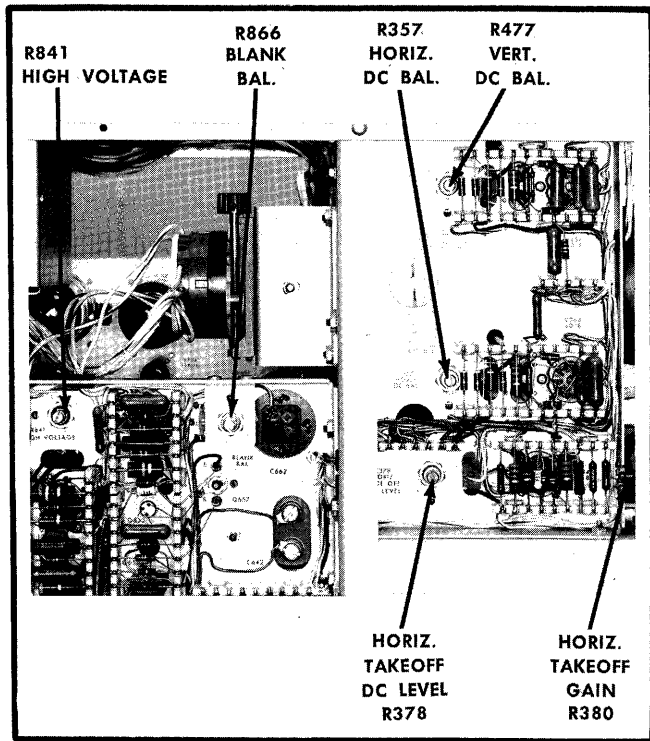
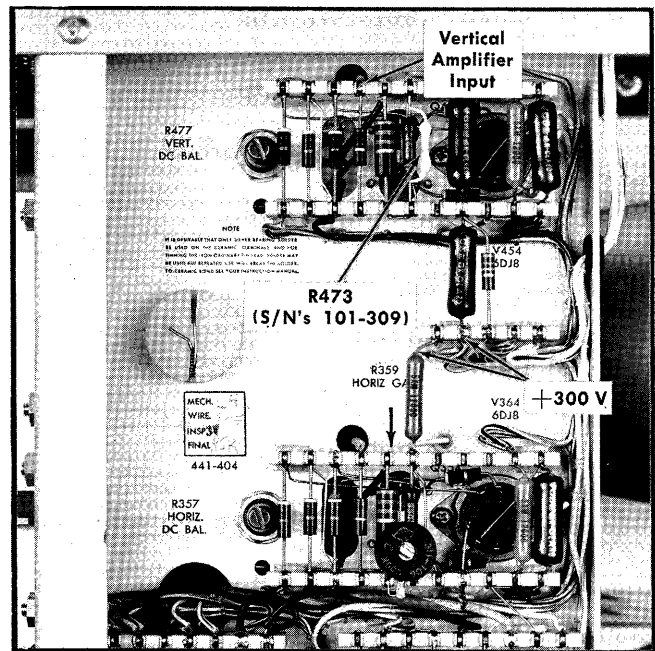

Fig. 5-2. Location of some adjustments on left side of oscilloscope (for instruments with serial numbers 101 through 309).
Fig. 5-3. Location of input to Type 661 Vertical Amplifier.
Disconnect the resistor from +300 volts. Carefully position the crt spot to the left edge of the graticule. Reconnect the resistor to +300 volts. If the spot does not move exactly 10 centimeters (plus or minus the error percentage just determined), adjust R841 (HIGH VOLTAGE control, Fig. 5-2) until the spot moves the correct amount. It may be necessary to repeat this procedure several times for proper adjustment.
Connect the dc voltmeter between the center terminal of R866 (BLANK BAL control) and pin 6 of V874 to check the differential voltage between the crt blanking deflection plates. V874 is located between the two ceramic strips adjacent to the control (see Fig. 5-2). Adjust the BLANK BAL control for zero volts on the meter. Turn off the Type 661, install both plug-in units, and turn the Type 661 back on.
Alternately connect and disconnect a 2-meg, 1% resistor between a +300-volt test point and the vertical amplifier input (see Fig. 5-3). The display should be spot alternately at  $-3$  and  $+3$  centimeters,  $\pm 2$  millimeters. If the scan is more than  $\pm 2$  millimeters from being 6 centimeters, check the vertical amplifier transistors and tubes. If they are satisfactory, then change the value of R473 according to the following procedure.
If it is necessary to change the value of R473, remove the existing resistor (Fig. 5-3). Obtain a group of  $1/4$ -watt, 1% deposited-carbon resistors ranging from about 5 through 12 megohms (such as 5, 7.5, 9, 10, and 12). Grasp a new resistor with the pliers and touch its leads to the ceramic strip terminals at the location for R473. Observe the crt display for 6 centimeters. When a resistor is found that gives the correct gain, trim its leads to the correct length and solder it in exactly the same position as the resistor removed.
Alternately connect and disconnect a 2-meg, 1% resistor between a +300-volt test point and the vertical amplifier input (see Fig. 5-3). The display should be spot alternately at -3 and +3 centimeters,  $\pm 2$  millimeters. If the scan is more than  $\pm 2$  millimeters from being 6 centimeters, check the vertical amplifier transistors and tubes. If they are satisfactory, adjust the HIGH VOLTAGE control (R841; see Fig. 5-2) for 6 centimeters between spots as the 2-meg resistor is alternately applied and removed.
Connect a 1.5 k, 1% resistor between the vertical amplifier input (Fig. 5-3) and ground. Horizontally position the crt spot to the graticule centerline, and adjust R477 (VERT. DC BAL.) to vertically position the spot to the centerline.
Set the Type 661 HORIZONTAL DISPLAY switch to EXT. HORIZ. INPUT, 5 VOLTS/CM, DC. Connect the Time-Mark Generator through a 50-ohm cable and a 47 k,  $\frac{1}{2}$  watt resistor to the Type 661 vertical amplifier input (shown in Fig. 5-3). Use item 20 of "Equipment Required" at the end of the 50-ohm cable. Set the Time-Mark Generator to deliver ~~50  $\mu$ sec~~ 500  $\mu$ sec time marks.